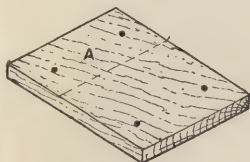
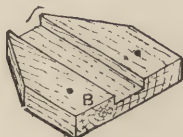

Fig. 16
Fig. 17
Figs. 16 and 17.—Details of Home-made Plough
Home-made ploughs are serviceable tools, and can be constructed from simple material, such as a chisel, some pieces of wood, and a few screws. Knock off the handle from an ordinary $\frac{1}{2}$ -in. chisel having a "shoulder" near the haft, and replace it with a cork; cut to the shape of Fig. 16 a piece of thin wood (say $\frac{1}{4}$ in. thick) $2\frac{1}{2}$ in. in breadth, its length depending on the length of the chisel. Place the chisel on the wood so that the cutting end overhangs about $1\frac{5}{8}$ in.; at the other end mark where the shoulder of the chisel touches the wood, and cut across just above the mark so that the shoulder falls over the edge and allows the chisel to lie flat on the wood. Cut another piece of wood thicker than the last (of full $\frac{1}{2}$ -in. stuff) to the shape of Fig. 17.
B. Put the second piece of wood, groove downwards, on the first one so that the square end B of Fig. 17 rests upon the portion marked A of Fig. 16, allowing the pointed end to overhang. Screw the two pieces together from underneath, taking care
to countersink the screw-heads. In the tunnel thus formed insert the chisel with its *bevelled edge upwards*, as it must always be when in use, and see that it has a rather loose fit. If it is all right, the cutting edge will project about $\frac{3}{8}$ in. at one end, and the shoulder will just fall over the edge at the other end. In a piece of wood c (Fig. 18), measuring, say, 2 in. by $\frac{1}{2}$ in. by $\frac{1}{2}$ in., make a groove of the same width as before, but a trifle deeper than the groove is at B (Fig. 17). Screw this last piece to the foundation A (Fig. 18) so that the groove en-
of course, intended to be pushed to and fro upon the right cheek of the press; but the tool, as it stands, will not cut straight through so as to leave a nice flat surface, but will rise until it has made a "hog's-back." To prevent this, provide a bar of wood *н* (Figs. 18 and 19), which should be fixed at one end to the top *г* of the plough, and should rest at the other end on a guide-rail *ж* fixed to the top face of the left cheek of the press. The bar should be rigid, say of $\frac{1}{2}$ -in. stuff about 8 in. long, and be fixed to the plough with two screws. The top surface of the rail must be level with the top face of *в* (see Fig. 18); the easiest way to effect this will be to make the rail *ж* of the same stuff as Fig. 17, and let it stand at each end on feet *л* (Fig. 18), made of the same stuff as Fig. 16. The bar will then lie quite horizontal across the press. Notice, too, that the rail *ж* should be set back 1 in. or more from the inner edge of the left cheek, otherwise it will interfere with the "backing" operations.